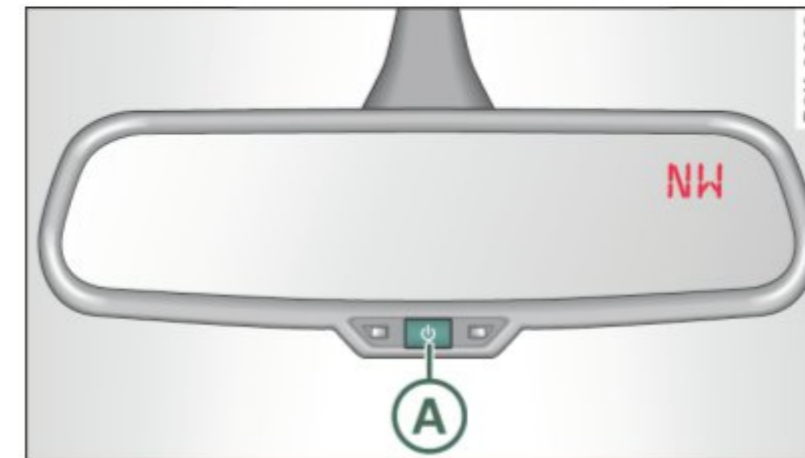

Fig. 66 Inside rear view mirror: digital compass activated
- Hold the **(A)** ⇒ *page 71, fig. 66* button down until the number of the set magnetic deflection zone appears on the interior rear view mirror.